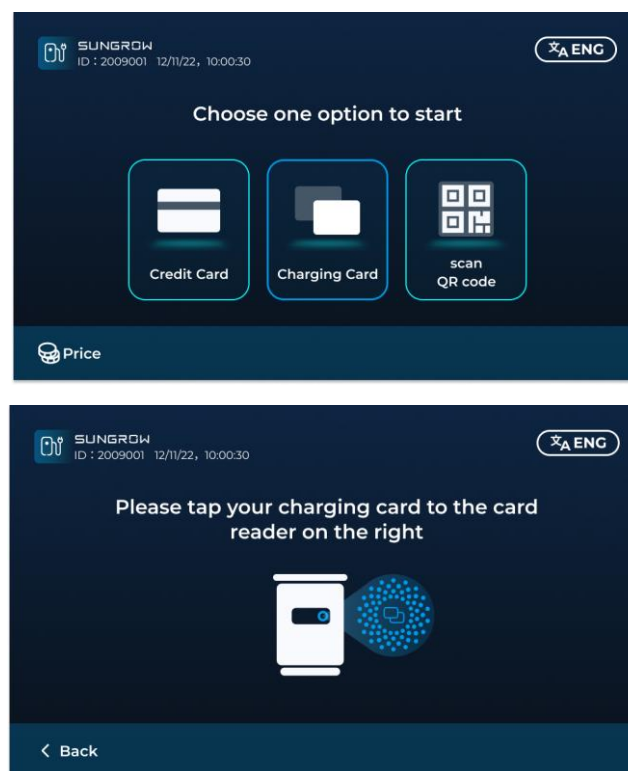

Fig.2-15 Card swiping page
1. Touch the LCD screen of the Charger. Select "Charging Card" to access the card swiping page, as shown in Fig.2-15;